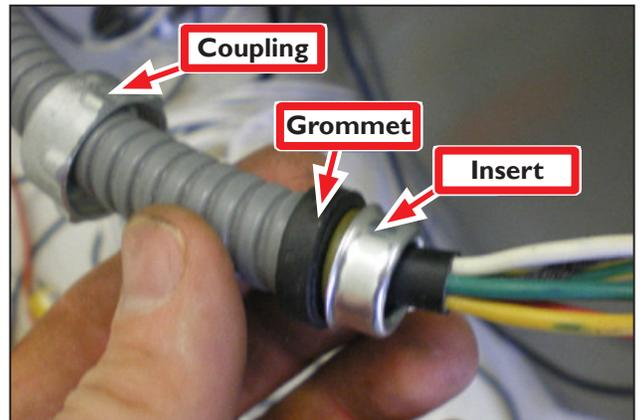

Figure 11
F. Remove old conduit coupling, rubber grommet, and conduit insert and replace with new parts (see **Figure 11**). Note that old conduit coupling may not have same thread pitch as new motors' conduit couplings. It is best to use the new parts instead of trying to reuse the old.